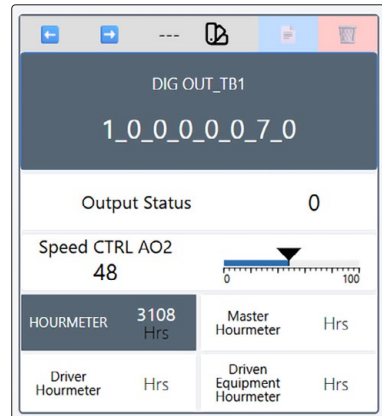

Figure 31
3. Move your mouse cursor to the bottom-right corner of the element you wish to resize, and click and drag to resize it. In *Figure 31*, the output status for the primary terminal board has been resized to fill the empty space.